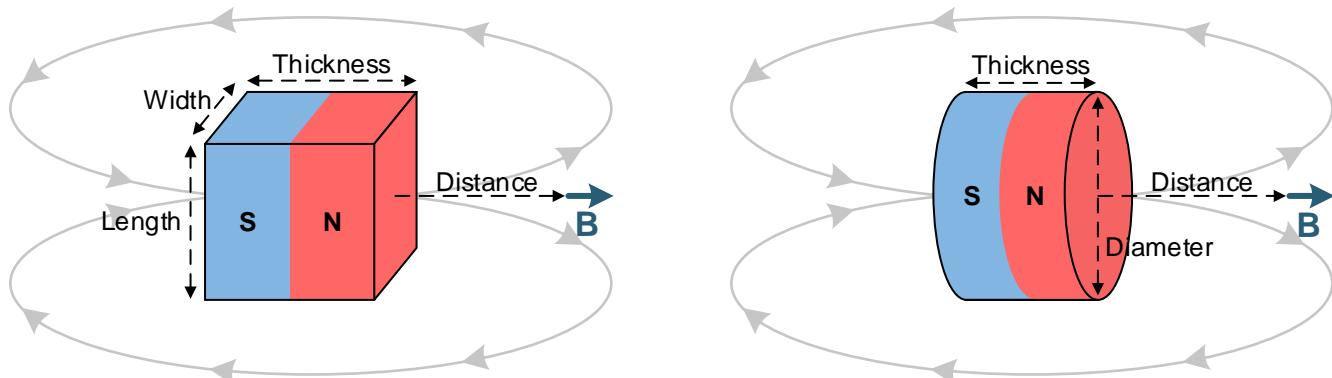

图 23. Rectangular Block and Cylinder Magnets
Magnets are made from various ferromagnetic materials that have tradeoffs in cost, drift with temperature, absolute maximum temperature ratings, remanence or residual induction (B_r), and coercivity (H_c). The B_r and the dimensions of a magnet determine the magnetic flux density (B) produced in 3-dimensional space. For simple magnet shapes, such as rectangular blocks and cylinders, there are simple equations that solve B at a given distance centered with the magnet. 图 23 shows diagrams for 公式 4 和 公式 5.
Use 公式 4 for the rectangular block shown in 图 23:
Use 公式 5 for the cylinder shown in 图 23: